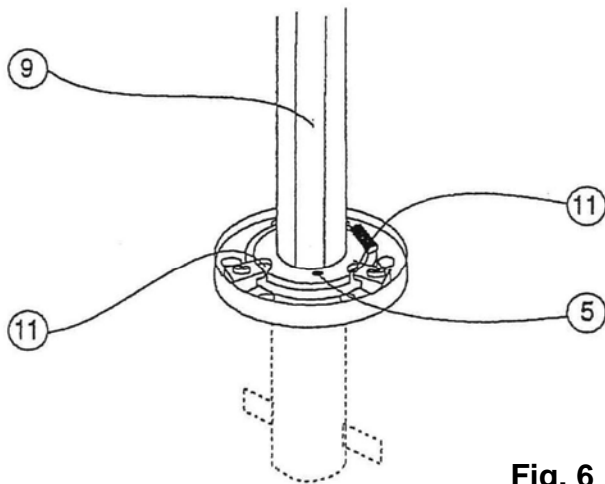
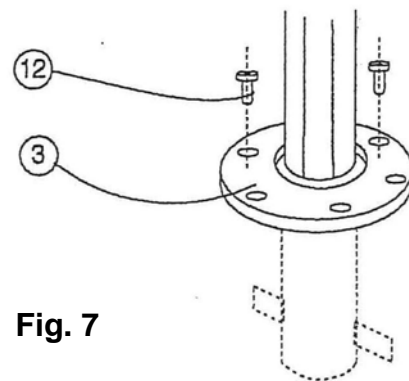

Fig. 6
Fig. 7
- Raise up the mast (9) carefully vertically and still holding it tight (Fig. 6).
- Insert securing screw (5).
- Lower the wraparound ring (3) to the foot of the mast and insert the anchoring screws (12) (Fig. 7).